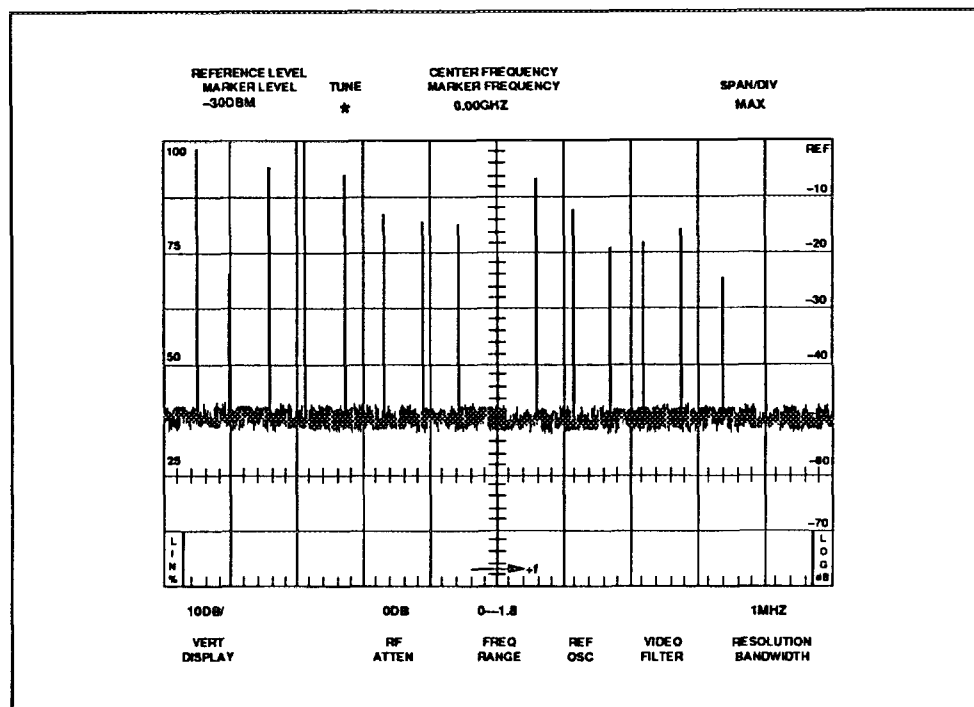

Figure 5-2. Typical display of calibration markers in the maximum span position.
e. A comb of 100 MHz markers will be displayed, as shown in Figure 5-2. To select 100 MHz center frequency, press the pushbutton sequence of <blue-SHIFT>FREQ 1 0 0 MHz.